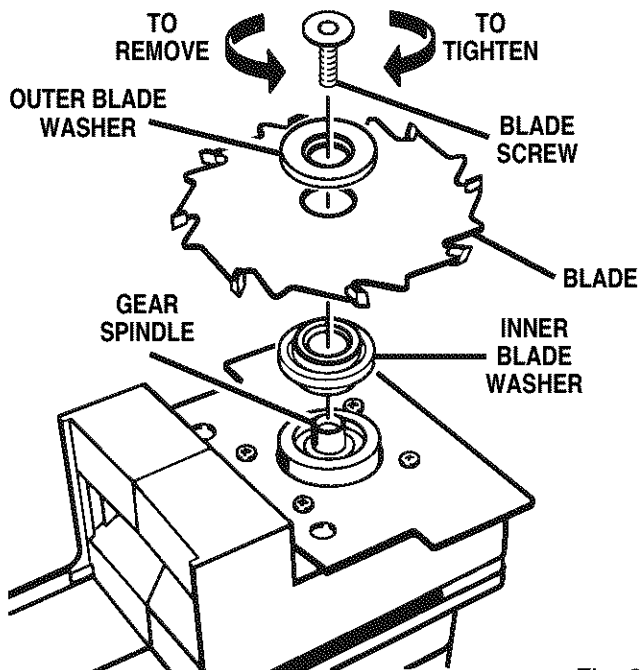

Fig. 27
- Using a 3/16 in. wrench, remove blade screw. **Note:** Turn blade screw counterclockwise to remove. See Figure 27.
- Place inner blade washer on gear spindle. See Figure 27.